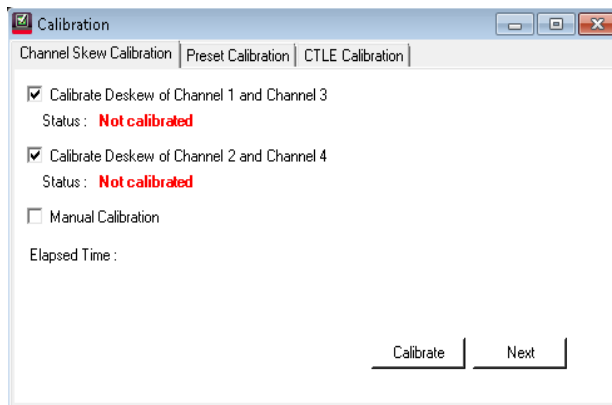

Figure 66 Default view of the **Calibration** window
- 2 The **Calibration** window appears. It has three tabs—**Channel Skew Calibration**, **Preset Calibration** and **CTLE Calibration**. As shown in Figure 66, the **Channel Skew Calibration** tab view displays by default.